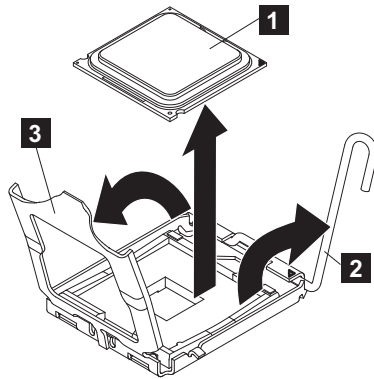

Figure 302. Opening the SAN Volume Controller 2145-DH8 microprocessor bracket frame
1. To open the socket in preparation for inserting the microprocessor, press down and out on the release lever (**2** in Figure 302 as you did to remove the microprocessor, and lift the microprocessor-release lever until it stops in the fully open position.